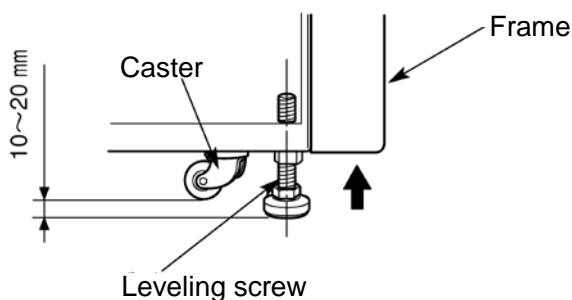

Fig.6-3 Leveling operation
- (1) Turn the four leveling screws with a wrench to lift the caster about 10 to 20 mm off the floor as shown in Fig. 6-3.
- (2) Turn on the POWER switch and open the chamber door. Then turn off the switch again. If the power cord is not yet connected, remove the front cover and then open the door according to the instructions given in Section 3-5, "Happenings when power failure occurs."